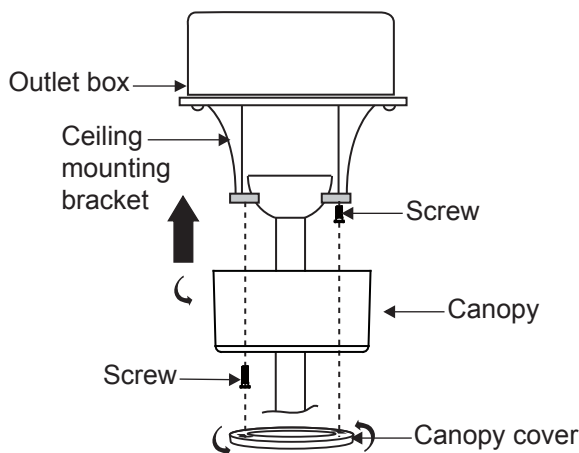

Fig. 16
Step 2. Slide the canopy up to the mounting bracket and place one of the key hole slots over the mounting screw on the mounting bracket. Rotate the canopy until the screw head locks in place at the narrow section of the key hole. (Fig. 16)
NOTE: Adjust the canopy screws as necessary until the canopy and canopy cover are snug. (Fig. 16)